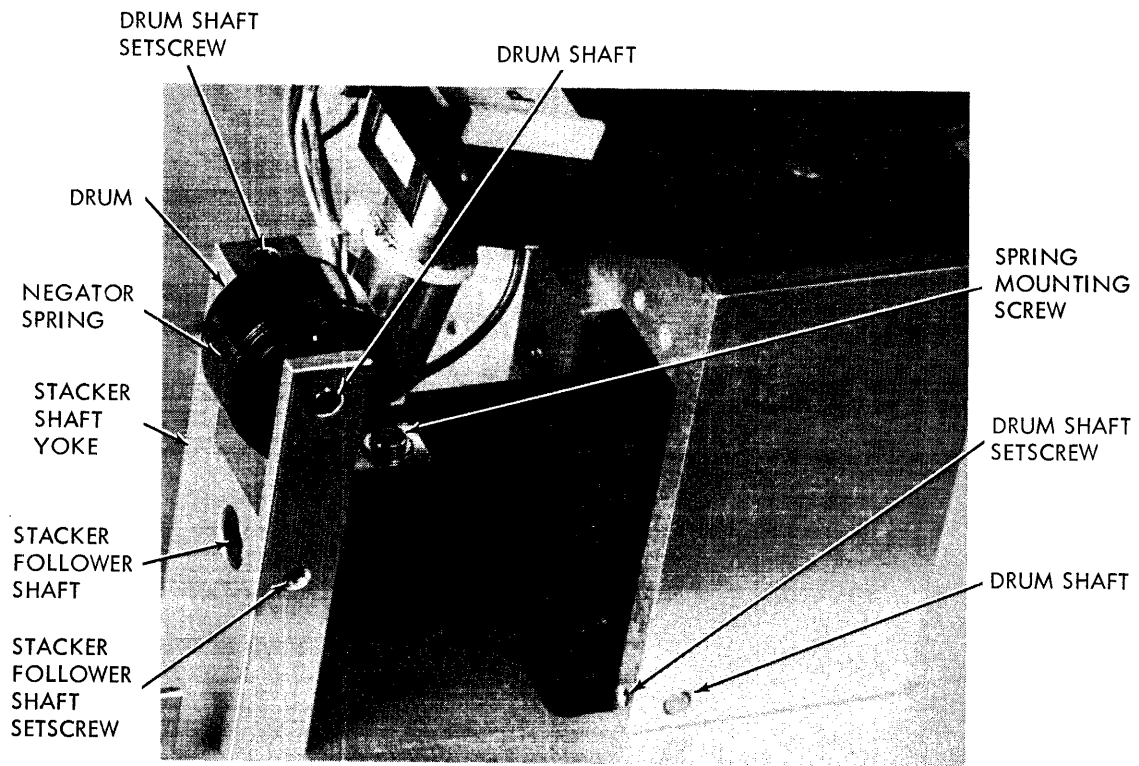

Figure 9-18. Negator Spring Replacement
- 1. Remove spring mounting screw and remove end of spring from stacker follower assembly, figure 9-18.
3. LOOSEN follower shaft set screw, figure 9-18, (stacker follower shaft only), and remove follower shaft.